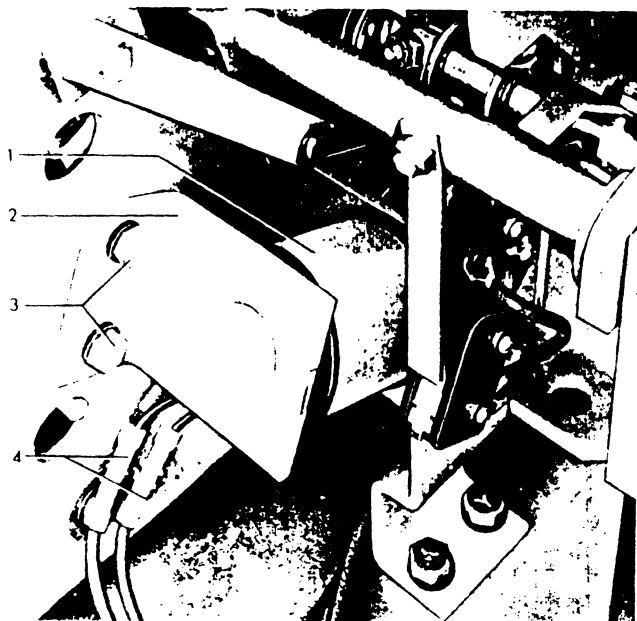

Figure 25 (8029371) Potential Trip Coil
2. Remove two bolts (3) Figure 25 and let the trip coil (1) and support (2) hang free.
To replace the potential trip coil (1) Figure 25, proceed as follows:
2. Cut wires at butt connectors (4) Figure 25.
3. Remove the two mounting bolts (3) and the trip coil support (2).
4. Remove the trip coil (1).